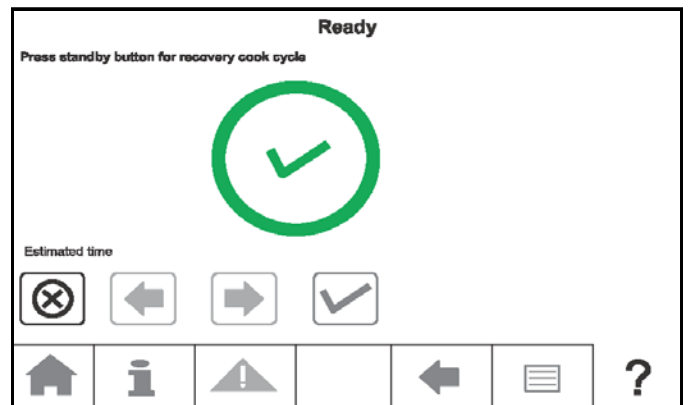

Figure-173
3. The Recovery mode is on. See Figure-173.